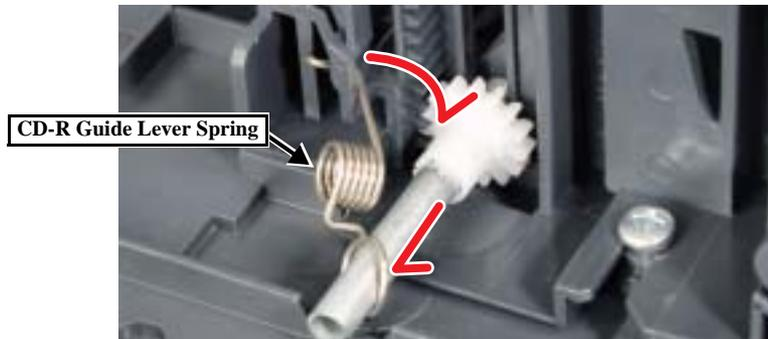

Figure 4-35. Removing the CD-R Guide Lever Spring
4. Lower the CD-R Guide, slide the shaft side of the CD-R Guide Lever Spring, release its hook side end, and remove the spring. (Fig. 4-35)